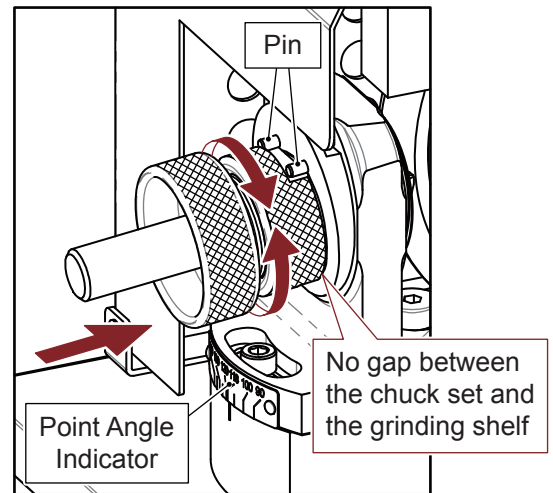

Fig. 8-1
1. Cutting Lip Grinding (Fig. 8-1)
- ① Insert the chuck set into the cutting lip grinding shelf, align the slot of clamping-nut to the two pins on the grinding shelf, push the chuck set gently and turn it clockwise and counterclockwise until the grinding noise stops.
- ② Take the chuck set out, turn it to the other side and grind the drill in the same way.